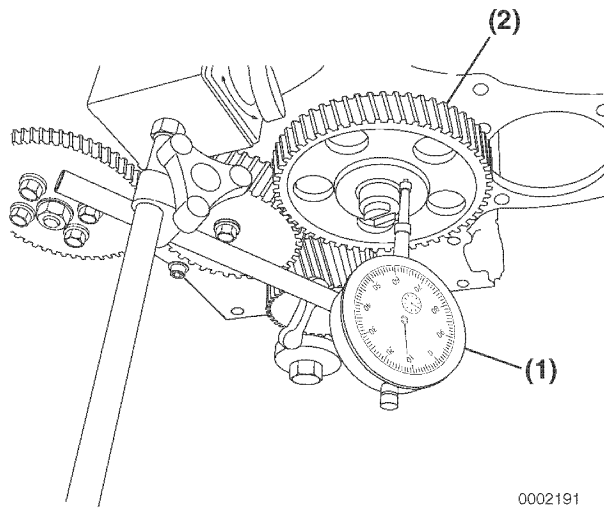

Figure 6-46
- **Method A:** Install a dial indicator (Figure 6-46, (1)) on the cylinder block. Move the camshaft and gear (Figure 6-46, (2)) in and out to measure the end play. Record the measurement. See *Camshaft* on page 6-7 for the service limit.